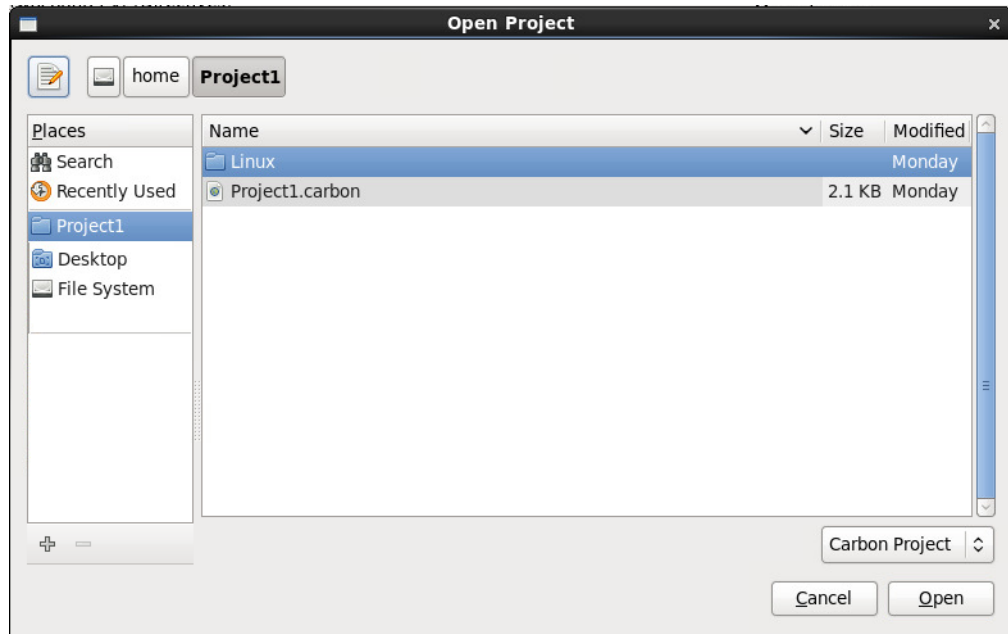

Figure 2-3 Open Project Dialog Boxes
Select **File > Open** to open an existing Cycle Model Studio project or file. Selecting *Open* displays the *Open Project* dialog, shown in Figure 2-3.
1. Select **File > Open > Project** to display the *Open Project* dialog (Figure 2-3), or select **File > Open > File** to display the *Open File* dialog.